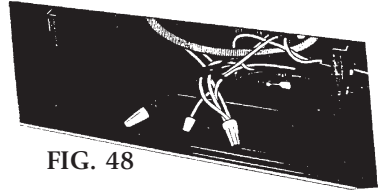

FIG. 48
2. Check Wiring Connections at Safety Control and Wire Nuts for Proper Fit. Physically check electrical connections at wire nuts(FIG. 48) and safety control for proper fit. Check for continuity between male prongs of power cord to safety control.